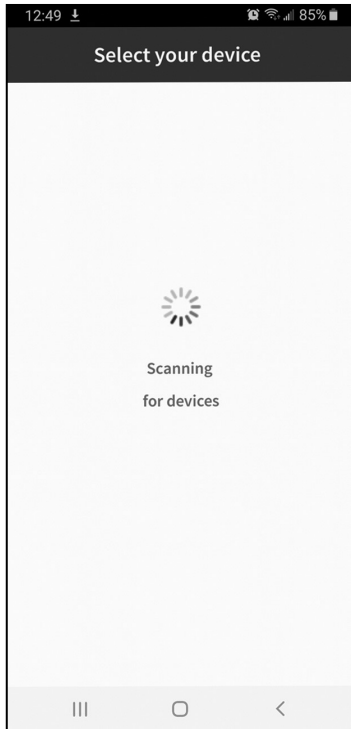

Fig. 18
5. Search for devices and select the device from the list (**Fig. 18 & 19**).